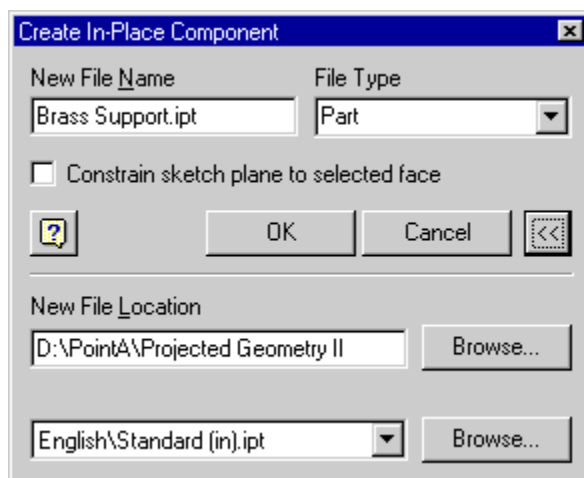

Figure 2: Create In-Place Component Dialog Box.
2. In the Create In-Place Component dialog box (see Figure 2):